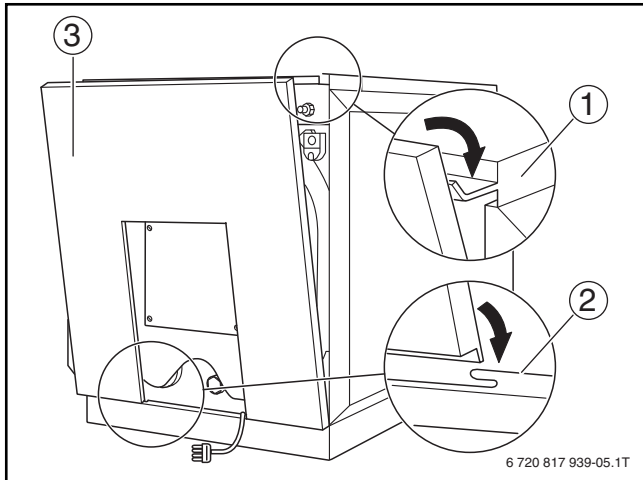

Fig. 43 Fitting the front panel
- ▶ Attach the front panel (Fig. 43, [3]) at the bottom in the center to the base panel (Fig. 43, [2]).
- ▶ Attach the front panel at the top to the folded edge of the front cover (Fig. 43, [1]).